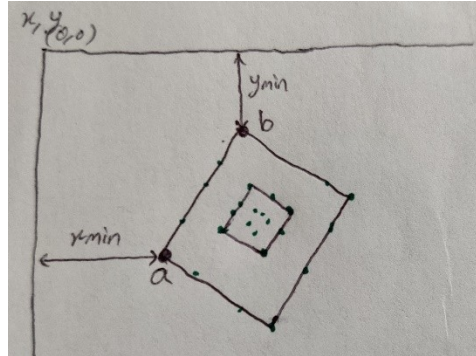

Figure 5
- o Select two corners, a and b, such that they are closest to the origin, as shown in Figure 5.